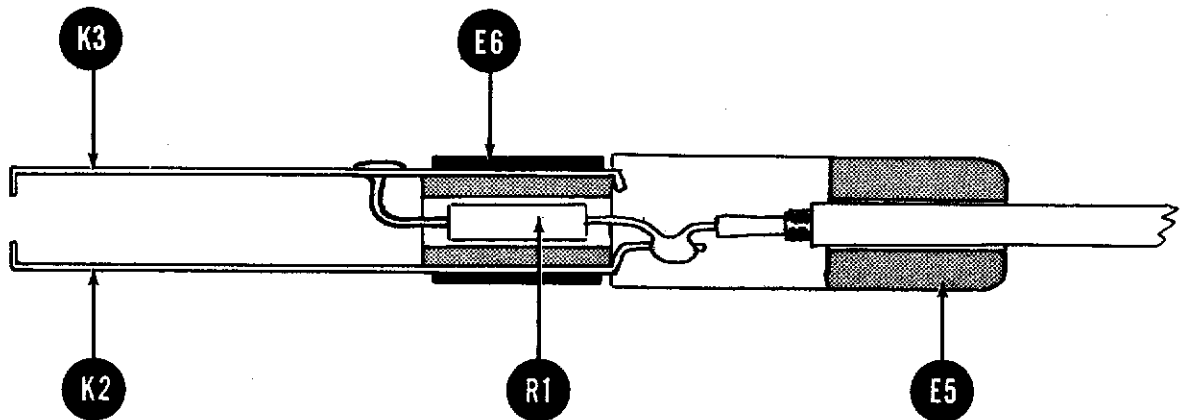

Fig. 10
- () Fig. 10. Position the contact holder assembly just completed so that the free ends of contacts K2 and K3 are at the left with K3 (small hole) on top. If the contact holder assembly, positioned as just described, is held at eye level in front of you, it will be seen as shown in Fig. 10. Position the body of the $1\text{ M}\Omega$ resistor R1 as shown, and pass one lead through the small hole in K3. Then trim off the excess lead and solder the connection between R1 and K3. Connect the other lead of R1 to the extension of the bottom contact K2 by first shaping the lead to lay flat against the K2 extension and then bending it back underneath. Close the U-shaped bend in the lead with a pliers to grip the K2 extension firmly and trim off the lead. The connection will be soldered in the next step.
- () Fig. 10. At one end of the co-axial cable strip away $1/2$ " of outside insulation and outer metal braid and $1/4$ " of inner insulation to expose the inner conductor. Insert the co-axial cable end so prepared in E5 as shown, and solder the inner conductor to the extension of contact K2, to which one lead of R1 was previously connected.